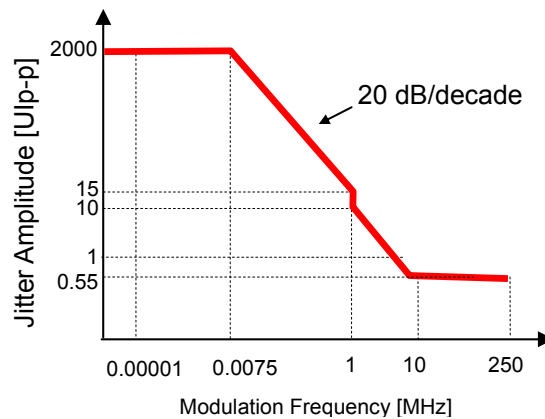

Figure 3.5-4 Total Jitter Added (When Interacting With 64G MUX)
0.007501 to 1.00000	20 dB/decade (Figure 3.5-4) +0.3
1.001000 to 10.000000	(Figure 3.5-4) +0.3